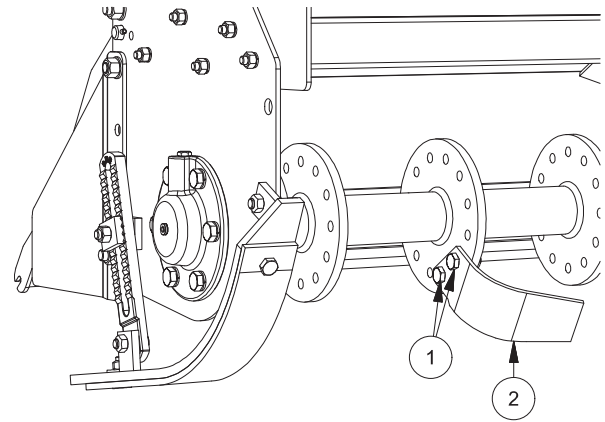

FIG. 29
- Loosen the two bolts (1, “Fig. 29”).
- Remove the hoe (2)